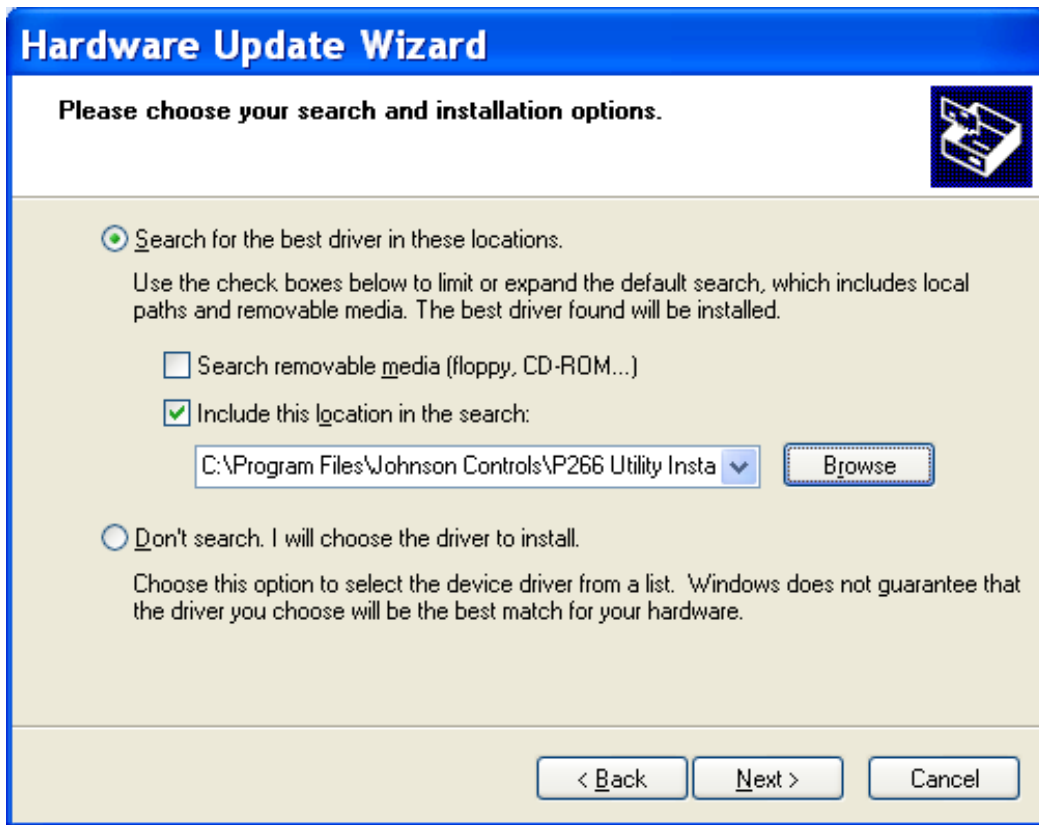

Figure 18: Search and Installation Options
- (1) Click **Start**, then right-click **My Computer** and select **Properties**.
- (2) Look for **x64 Edition** listed under **System**. If you don't see **x64 Edition** listed, then you are running the 32-bit version of Microsoft Windows XP. If you do see **x64 Edition** listed, then you are running the 64-bit version of Microsoft Windows XP.
- At this point, a screen similar to Figure 18 should appear. Included in the file path is either the 32-bit or 64-bit folder that was selected previously. Click **Next** to proceed.